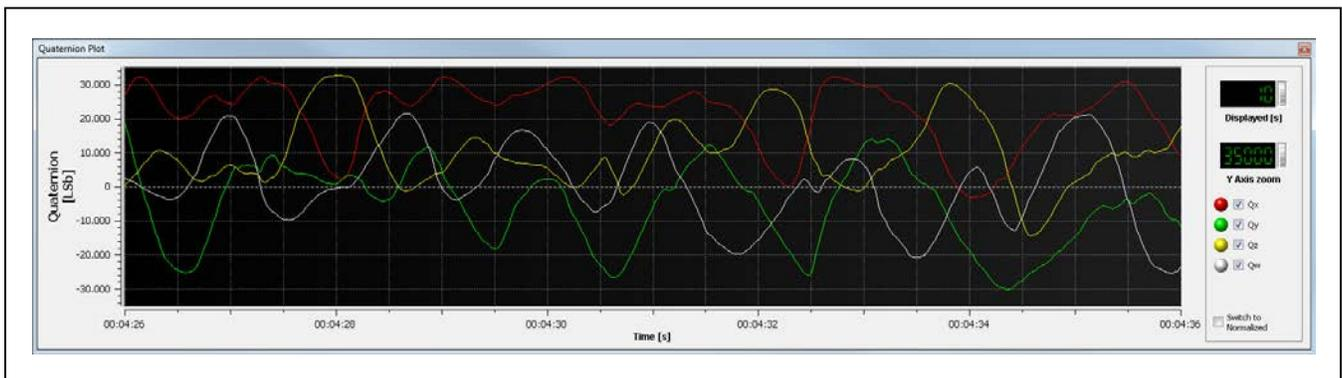

Figure 21. Quaternion Plot
- **Quaternion Plot:** This view shows a plot for the quaternion components (Figure 21).